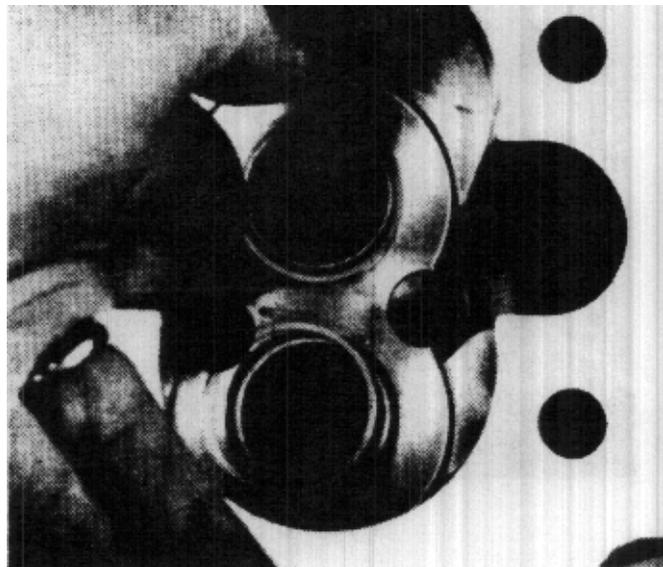

FIGURE 92
29. Install the o-rings (35), then the back-up rings (14 on the bearings which extend up from the bottom of the body. (Fig. 92)